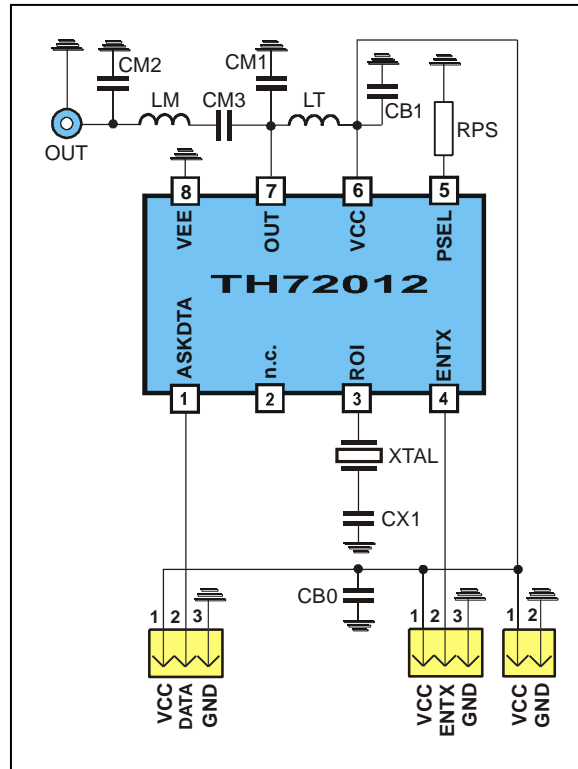

Fig. 17: Test circuit for ASK with 50 Ω matching network
- Data according to test circuit in Fig. 17
### 6.1. Test circuit component list to Fig. 17